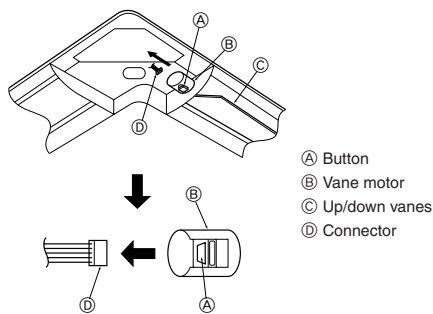

Fig. 10-9
10.5. Locking the up/down airflow direction (Fig. 10-9)